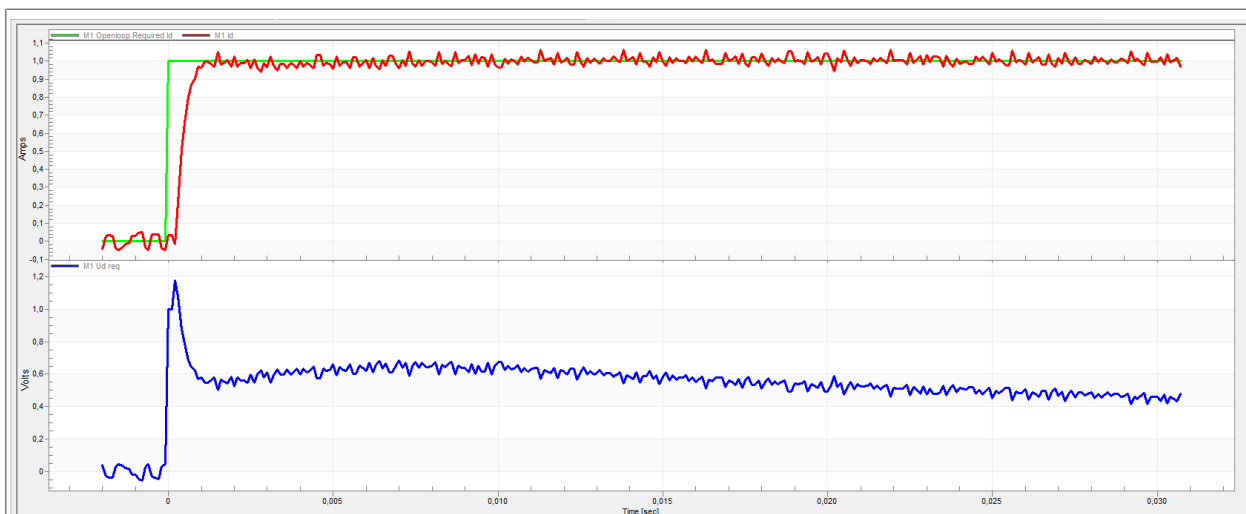

Figure 31. Optimal step response of the Id current controller
- The loop bandwidth (300 Hz) is optimal and the response time of the Id current is sufficient (Figure 31).